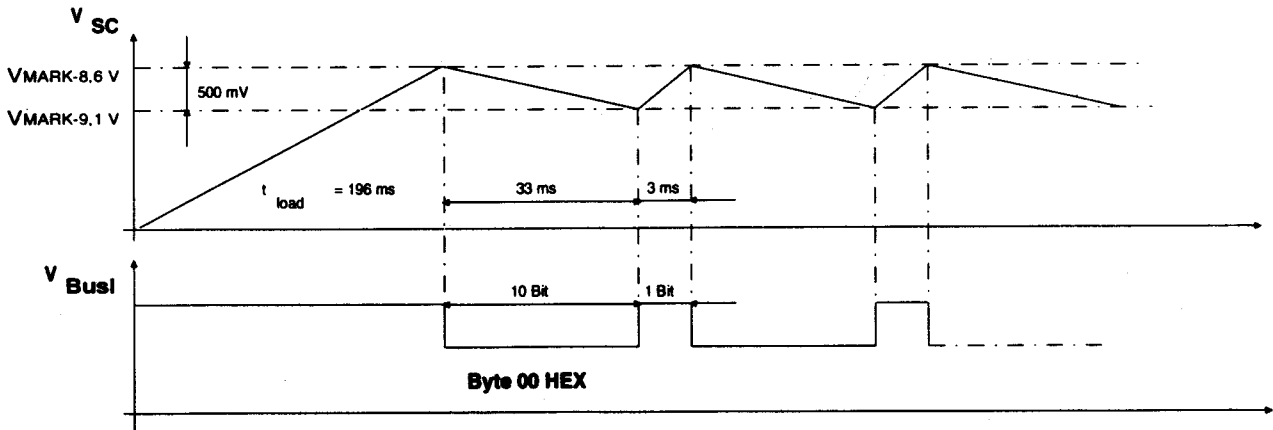

Figure 5. Possible voltage diagram of SC capacitor
1. With a very low baudrate (e.g. 300 bits/s) and a small capacitor, the drop voltage of the SC capacitor is very high. If the voltage lift of the controller in SPACE transmit is also on the lower limit, then an error in transmission could result. As you can see in the example in Figure 5, the drop voltage could be about 500 mV.